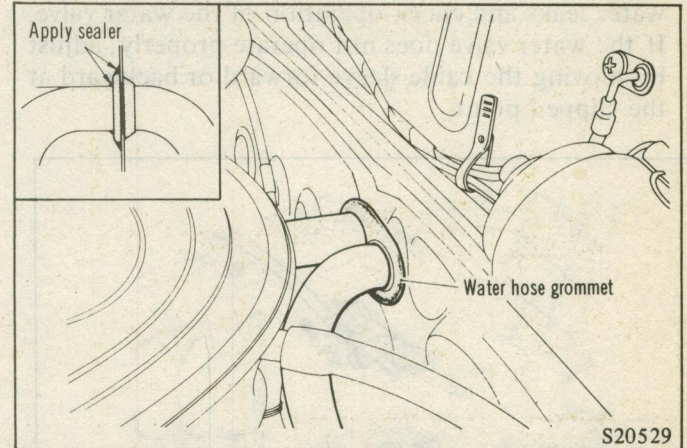

Fig. 6 Installing the Water Hose Grommet
(2) When filling the radiator with coolant, first open the water valve fully and run the engine to circulate the coolant and discharge air from inside the heater and engine cooling system. Then stop the engine and add coolant.
(3) Adjust all control cables (Refer to Heater Control Assembly).
(4) When installing the water hose grommets, apply sealer. (Fig. 6)